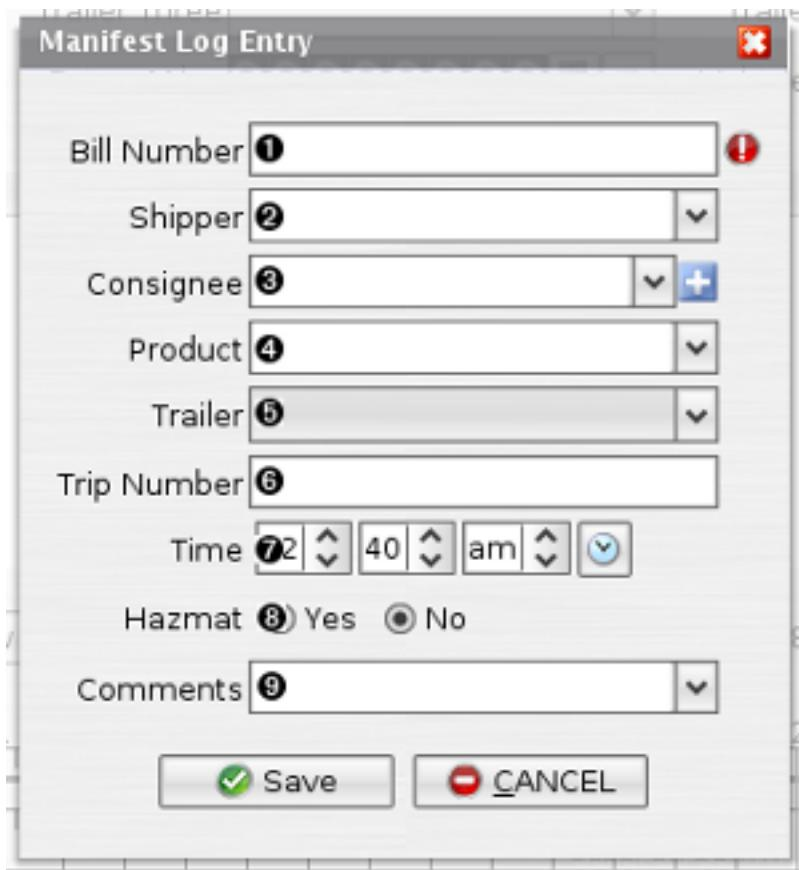

Figure 5.23. Manifest Log Entry Dialog
- Manifest: A log entry to record the load manifest for the currently loaded product. See Figure 5.23, “Manifest Log Entry Dialog”.